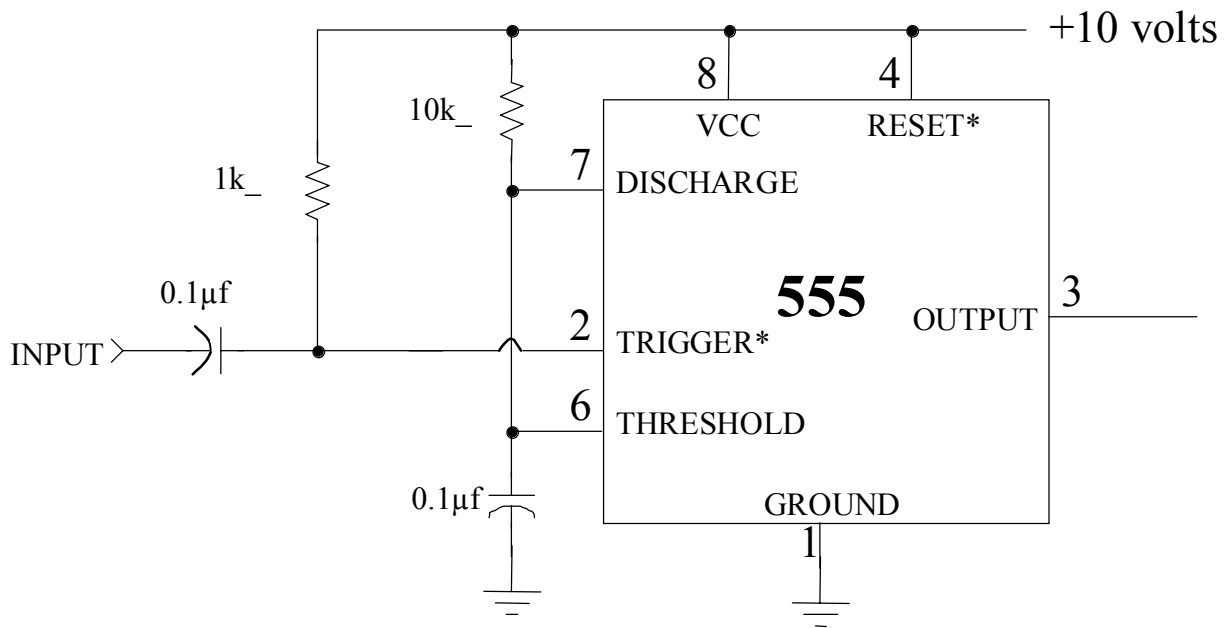

Figure 3. 555 one-shot
A very useful circuit is a one-shot, also called a monostable. Basically a one-shot produces a longer output pulse in response to a short input pulse. These circuits have important applications in digital circuits where they can provide signal delays and can “stretch” very short pulses into longer pulses to operate computer logic more reliably. These circuits also are used in digital communications, biomedical engineering, and any other application where you need to clean up a digital signal in the presence of noise. A typical one-shot circuit using the 555 is shown in Figure 3. This circuit is exactly the same as the astable oscillator you made in part c of the preceding step, except that pin 2 is no longer connected to pin 6.
- (a) Construct the 555 monostable shown in Figure 3. Note that you only need to make a few small changes from your previous circuit. Connect the trigger input (Pin 2) to the H-P function generator. Adjust the generator output for a 4% duty cycle (a very narrow pulse) at about 100 Hz. See the note below for how to do this!